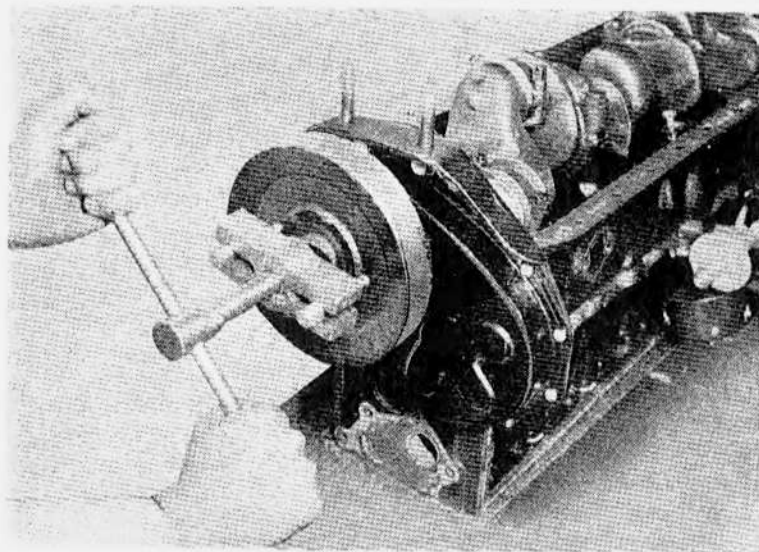

Figure 49 - Crankshaft Pulley Puller
(12) Remove two bolts attaching water outlet to cylinder head and remove water outlet and gasket.
(13) Remove water pump retaining bolts and remove generator adjusting bar and pump and gasket.
(14) Attach crankshaft pulley puller (BX SST-1022) to pulley and turn puller screw to remove pulley (Fig. 49).
(15) Disconnect accelerator link from carburetor.
(16) Remove accelerator link arm pin, accelerator link arm and link arm stopper from cylinder block. Remove accelerator link tension springs.
(17) Remove carburetor attaching nuts and remove carburetor.
(18) Remove bolts and clamp bolts attaching manifold to cylinder head and remove manifold assembly and gaskets and side collars. If necessary, remove oil cleaner from intake manifold.
(19) Remove bolts attaching oil distributor to block and remove oil distributor and gasket.
(20) Disconnect oil delivery pipe and remove it. Remove oil connect sleeve, spring and delivery pipe union from valve rocker shaft assemblies. Remove valve rocker shaft assemblies from cylinder head.
(21) Remove twelve push rods and twelve valve lifters.
(22) Remove the cylinder head attaching bolts, cylinder head, gasket, air cleaner bracket and two bond strap pieces.
(23) Using valve lifter tool, compress the valve springs and remove cap stoppers, spring caps, oil seals, springs and valves.
(24) Turn the block assembly over in the engine stand and remove oil pan attaching bolts, oil pan and gasket.